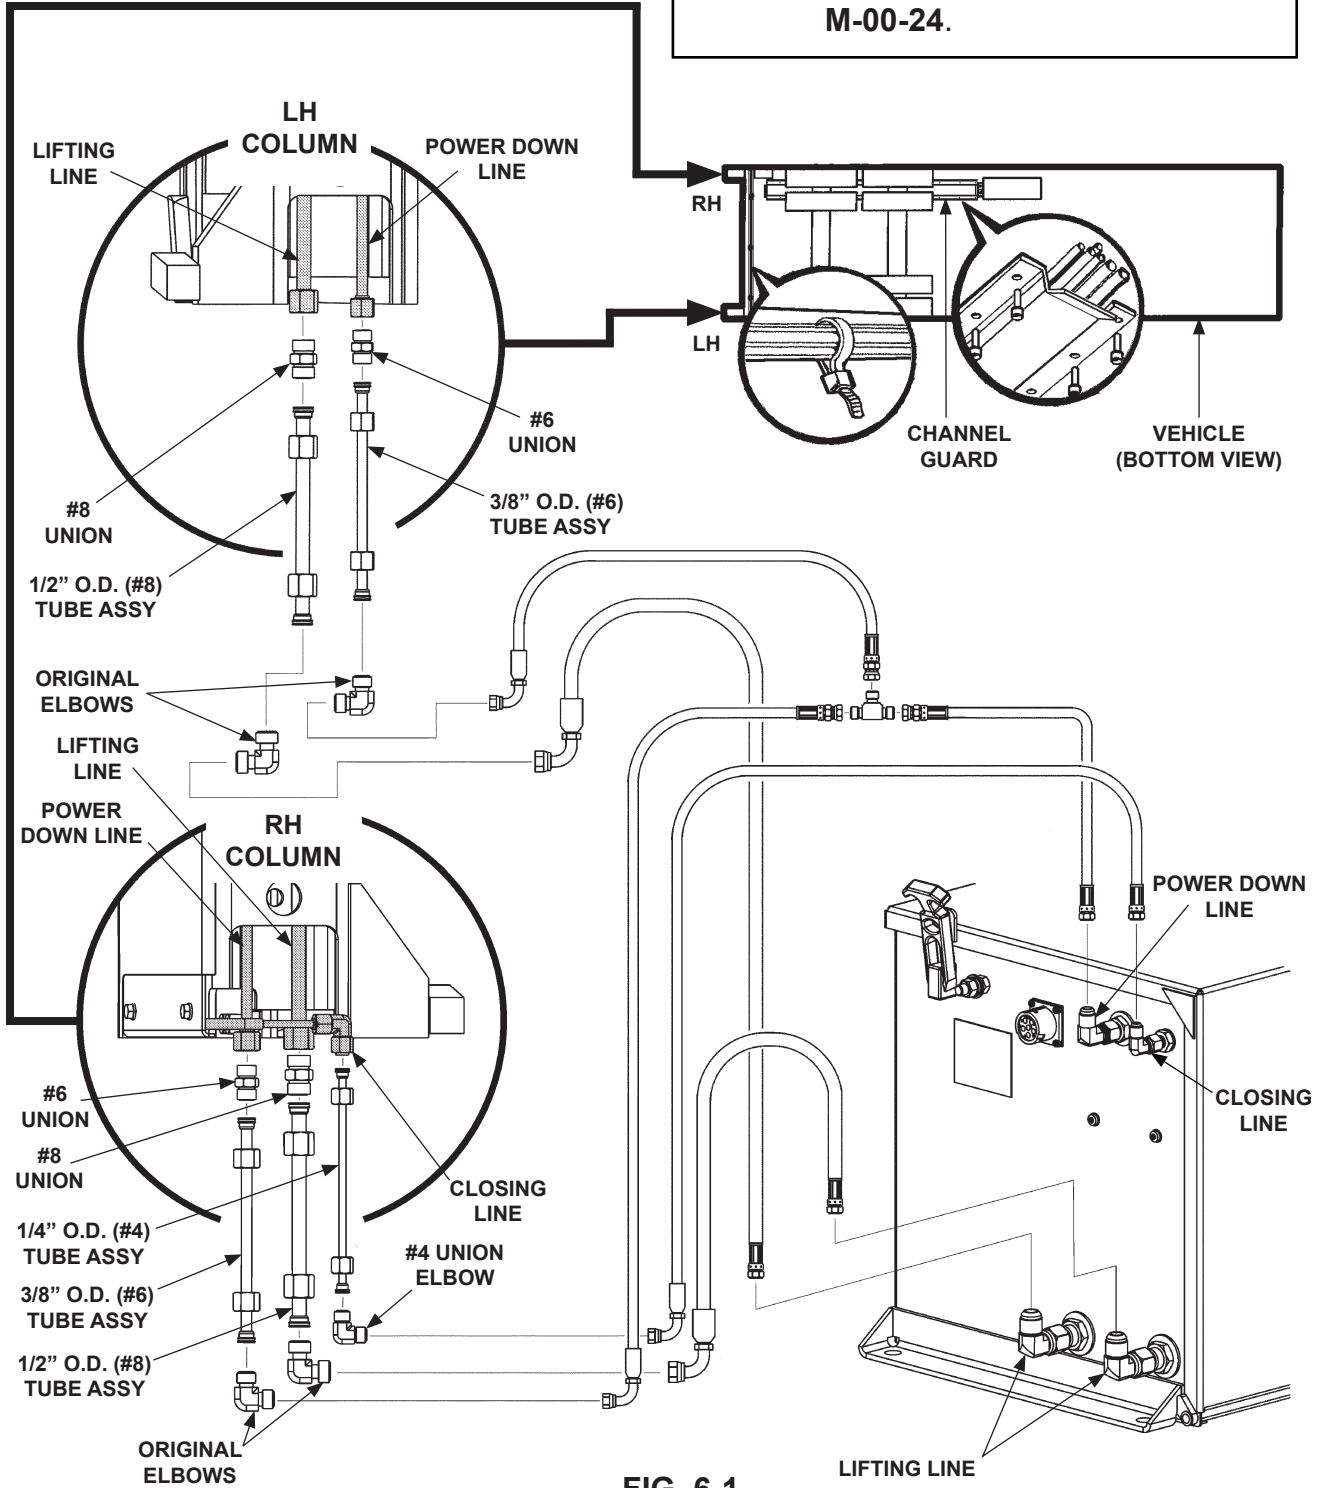

FIG. 6-1
6. Remove original elbows from power down lines (**FIG. 6-1**), return lines (**FIG. 7-1**) and lifting lines (**FIGS. 6-1 & 7-1**).
7. Connect tube assemblies (kit items) to hydraulic lines (**FIGS. 6-1 & 7-1**).
8. Reconnect original elbows to bottom of respective tube assemblies (**FIGS. 6-1 & 7-1**).
9. Loosen and rotate original elbow for closing line downward 90° on right hand column. (**FIGS. 6-1 & 7-1**). Connect 1/4" O.D. tube (kit item) to line. Then, attach #4 elbow to 1/4" O.D. tube as shown in **FIGS. 6-1 & 7-1**.
11. Connect hydraulic lines to open end of each elbow as shown in (**FIGS. 6-1 & 7-1**).